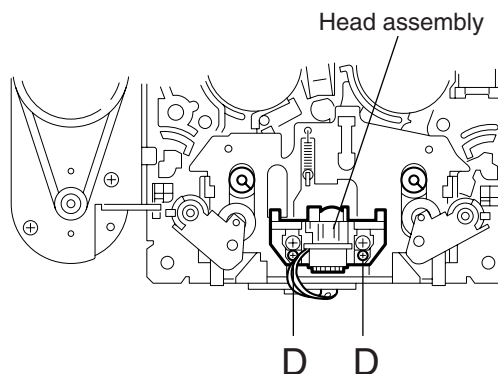

Fig.9
■ Removing the head assembly / head board (See Fig.9 and 10)
- Prior to performing the following procedure, remove the side bracket (L), (R), cassette hanger assembly / cassette holder.